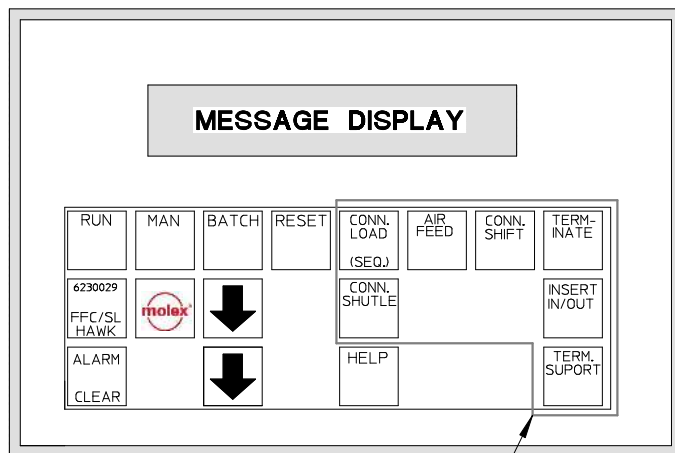

Figure 2-9
**Manual Mode** (See Figure 2-9)